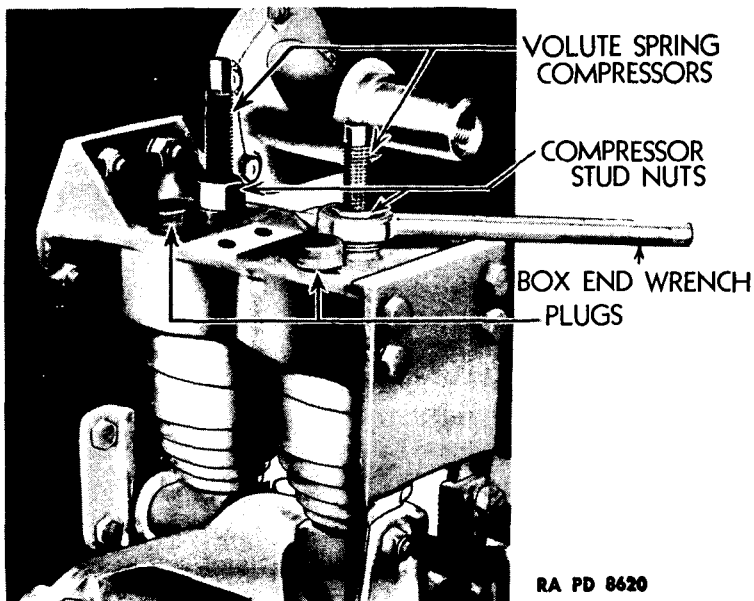

Figure 108 — Compressing Volute Springs
(2) **INSTALL BOGIE SPRING COMPRESSORS.** Remove volute spring plugs on top of bogie mounting bracket, and install both bogie volute spring compressors (41-C-2559-50) through mounting bracket and into volute spring seats. Tighten compressor lock nuts to lock springs in compressed position (fig. 108).